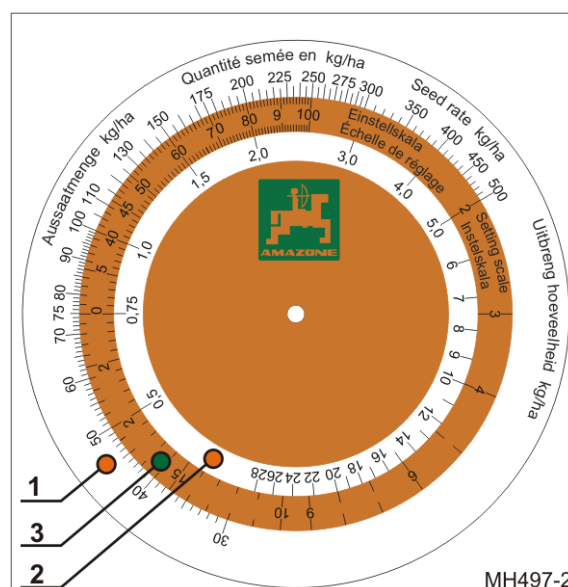

Fig. 104
- An outer white scale (Fig. 104/1) for fertiliser quantities above 30 kg/ha
- An inner white scale (Fig. 104/2) for fertiliser quantities below 30 kg/ha
- A coloured scale (Fig. 104/3) with all gearbox settings from 1 to 100.